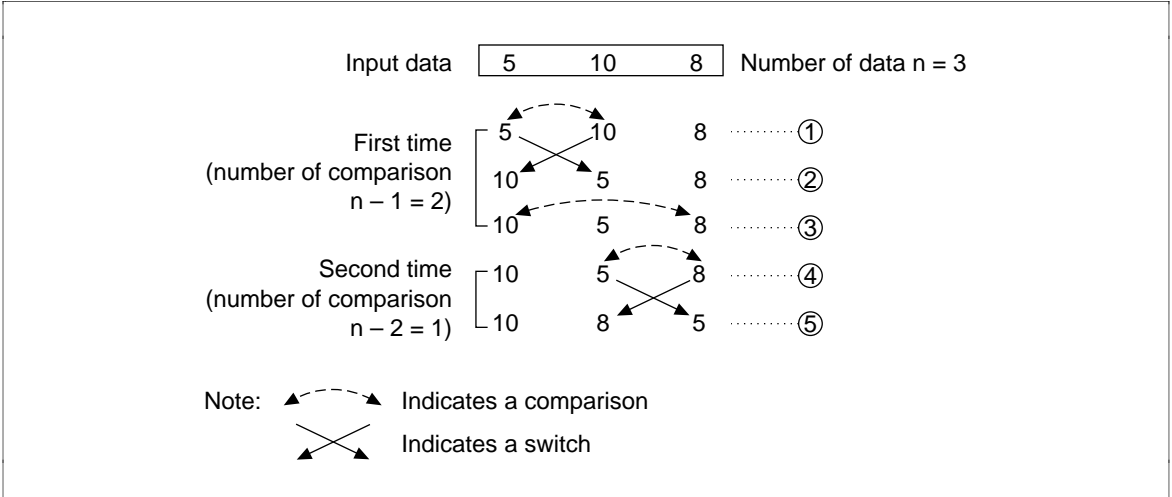

Figure 4.74 Sorting Example
Figure 4.74 shows an example of sorting 3 items of data from largest to smallest.
1. Selects the largest of the 3 input data and places it at the far left ((1), (2) and (3) in figure 4.74).
2. Selects the largest data from second to left to the end and places it at the second place from left ((4) and (5) in figure 4.74).